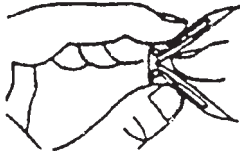

Figure 8.
2. Fold wall anchor as shown in figure 8 below.